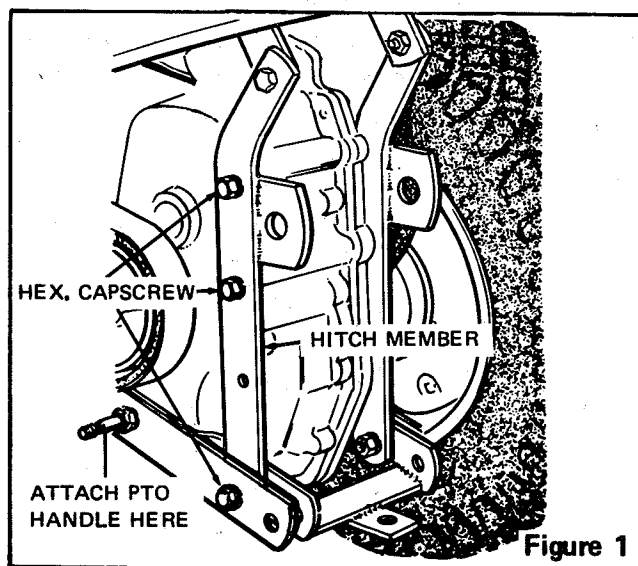

Figure 1
1. Remove 3 hex capscrews from left side of tractor as shown in Figure 1.